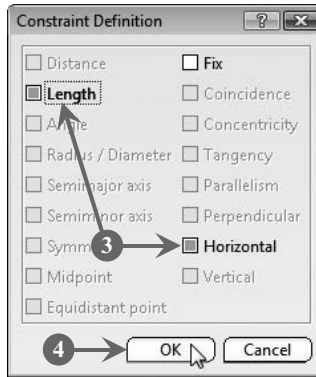

**FIGURE 2.87**
1. *Select* the line to which you want to apply multiple constraints (**Figure 2.87**).
2. *Select* **Insert > Constraint > Constraint**, as shown in Figure 2.87:
After applying the respective constraints, you see a figure similar to the figure displayed in Figure 2.87.